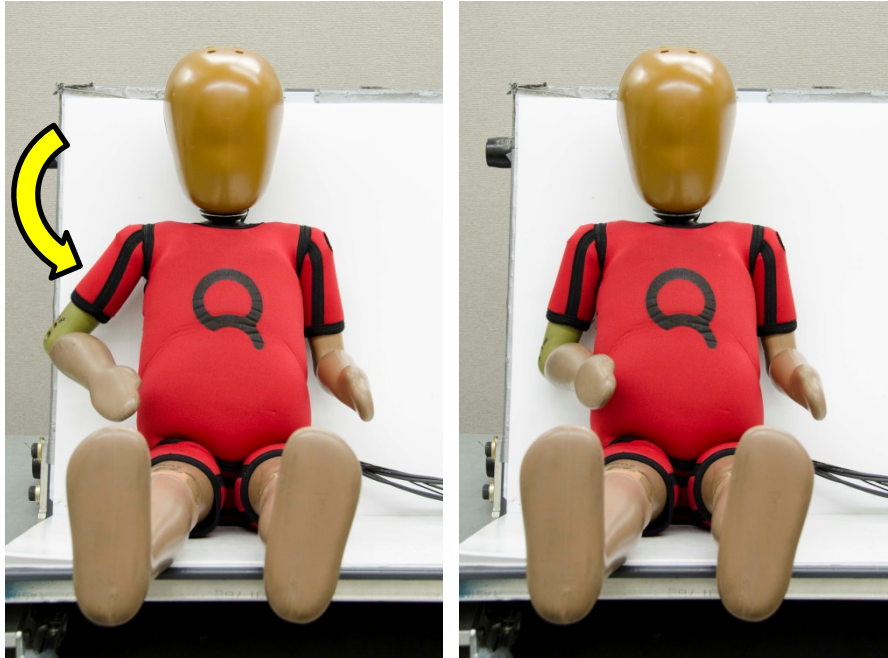

Figure 70. Setting the arm medially for shoulder tests
- Move the arm inwards (medially) until initial contact occurs between the sleeve and the portion of the suit covering the thorax (Figure 70).